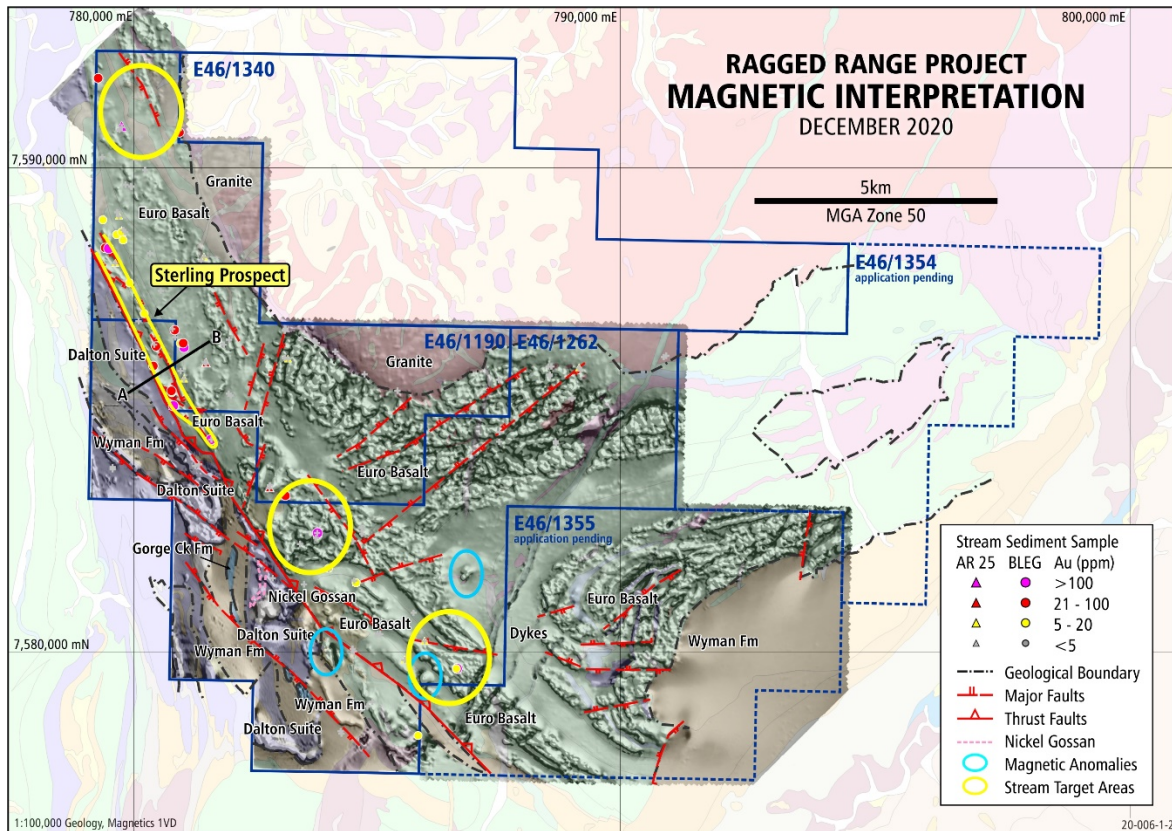
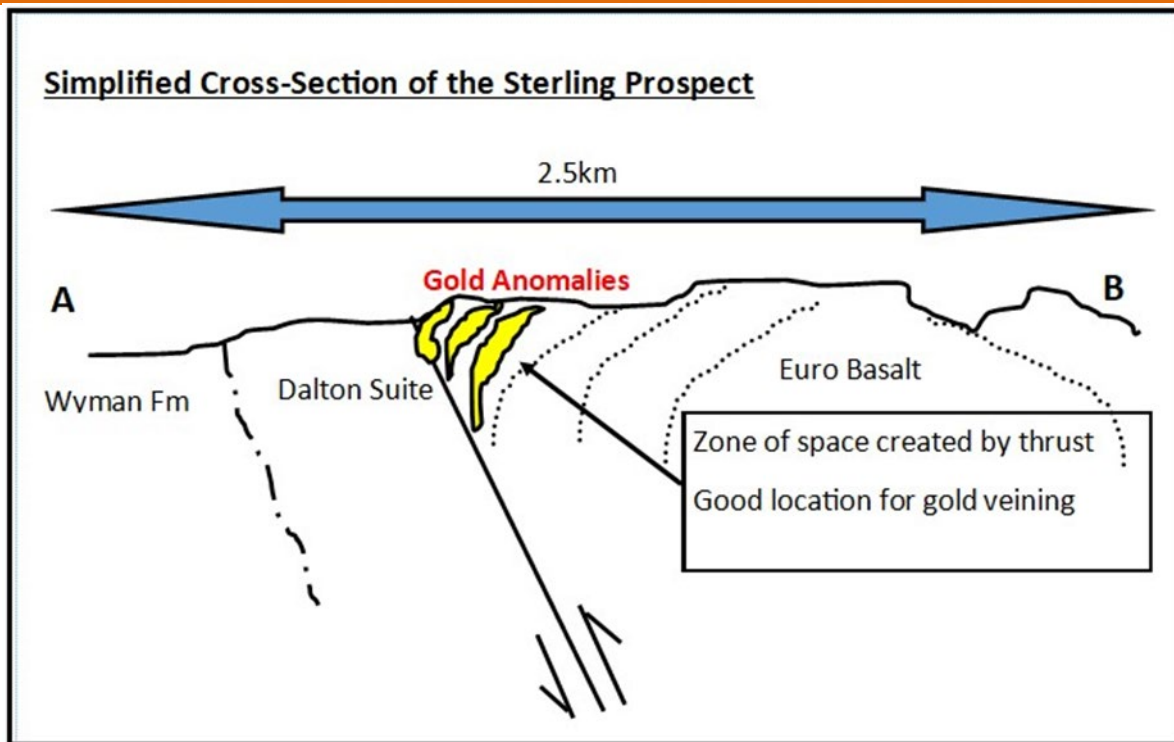
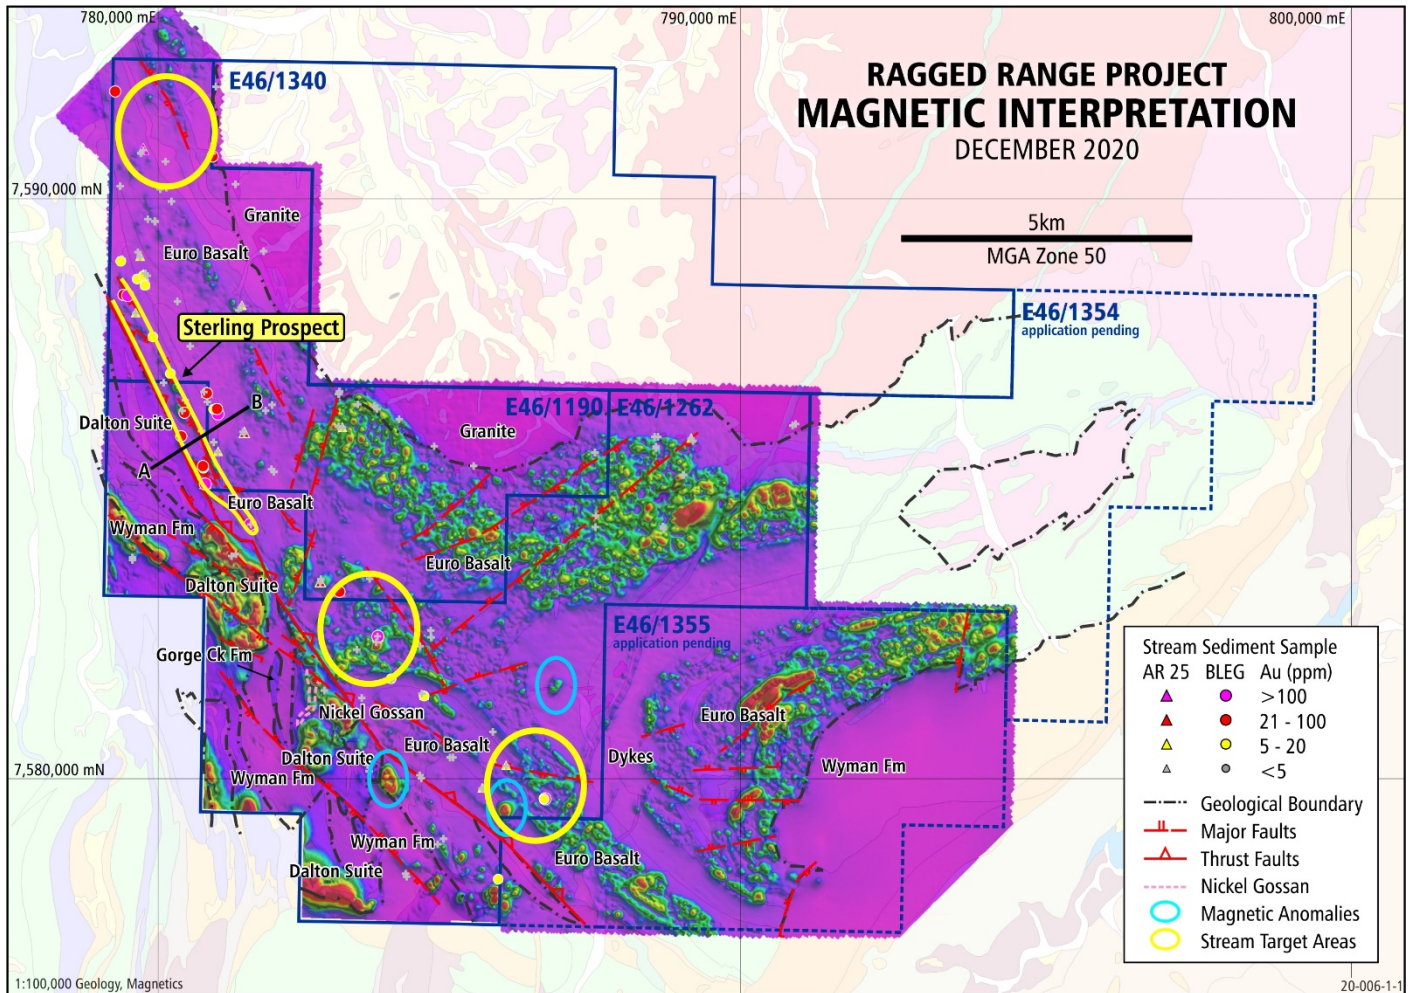

Figure 1: Ragged Range 1VD magnetics over Geology with stream anomalies
Figure 3: Sterling Prospect-Simplified Cross-section (vertical scale enhanced)
Figure 4: Analytical Signal of the Vertical Intergrated (ASVI) image over Geology
- Three isolated, strong magnetic anomalies highlighted on Figure 3, have no simple geological explanation in the magnetics. These are priority targets for follow-up;
Corunna Downs Batholith Is a large granitoid body (Intruded around 3000Ma). *On the geological map (figures 1 & 4) it is coloured pink.*
Figure 3 is a simplified cross section (shown as A-B on Figure 1) that illustrates a simplified structural model for gold mineralisation at the Sterling Prospect. The Sterling Prospect is about five kilometres long and around 300m to 500m wide. Gold values increase upstream in both the BLEG and < 2mm, AR25 stream sediments, towards the contact. Interestingly, Thor reports no anomalous gold in streams to the west of this contact, in the ultramafic Dalton Suite. This model is preliminary, providing an explanation for the location of the stream sediment gold anomalies, close to the Euro Basalt and Dalton Suite contact. In the hanging wall (Eastern Side) of the thrust, space will be created during thrusting, allowing quartz veining to form, potentially with gold mineralisation. This preliminary model will certainly improve once drilling commences at the Sterling Prospect.
Three circles are shown covering magnetic anomalies seen in the 1VD magnetic image (Figure 1). These do not appear to have any reasonable geological explanation. They are also shown on Figure 4, an image that uses an Analytic Signal of the Vertical Integral (ASVI) filter. ASVI is a processing method for potential-field data, also called the total gradient method. It is used for defining the location and depth of edges of magnetic anomalies. In this image, the anomalies are quite distinct and will be investigated at the earliest opportunity.